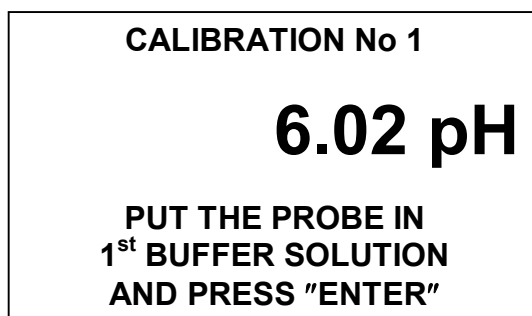

Fig. 2.1
- 2 Power up the pH-meter. Press the  key. The display shown in Fig. 2.1 shall come up.